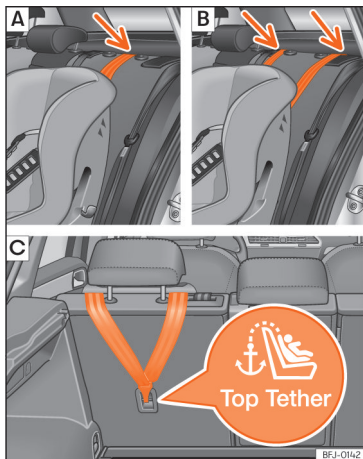
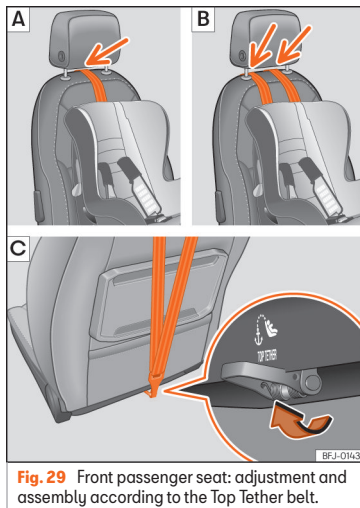

Fig. 28 Side seats of the second row: adjustment and assembly according to the Top Tether belt.
Fig. 29 Front passenger seat: adjustment and assembly according to the Top Tether belt.
hind the seat backrest or in the boot] »» Fig. 28. For the front passenger seat, the ring is below the backrest »» Fig. 29.
- Position the belt under the headrest (depending on the instructions of the seat itself, lift or remove the headrest if necessary) »» Fig. 28 [A/B], »» Fig. 29 [A/B].
- Slide the strap and secure it properly with the anchorage of the backrest »» Fig. 28 [C], »» Fig. 29 [C].